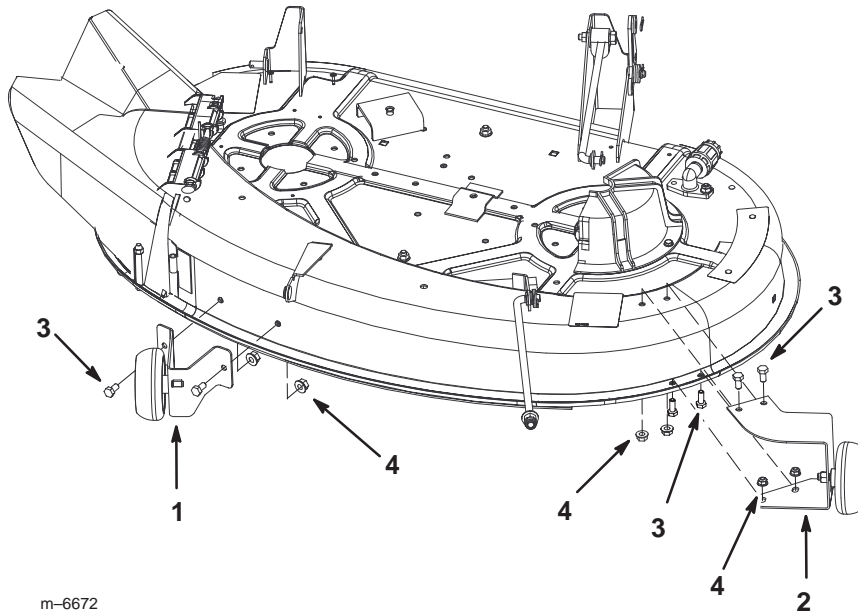

Figure 2
3. Mount the brackets onto the deck using the bolts, 5/16 x 5/8 inch and flange nuts, 5/16 inch (Fig. 2 and 3).